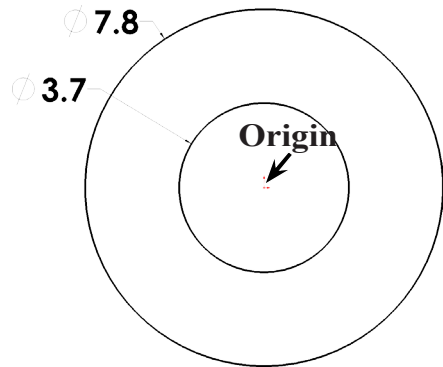

Fig. 2
- Step 3. Click **Circle**  (S) on the Sketch toolbar.
- Step 4. Sketch two circles starting at the Origin , **Fig. 2**.
- Step 5. Click **Smart Dimension**  (S) on the Sketch toolbar.
- Step 6. Dimension circle **diameters 3.7 and 7.8**, **Fig. 2**.